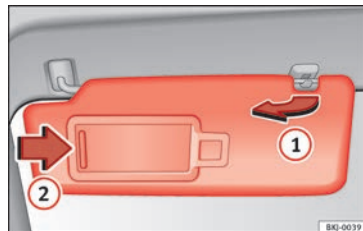

Fig. 153 Sun visor on the driver side.
- The sun visor can be pulled out of its mounting and turned towards the door »» Fig. 153 ①.